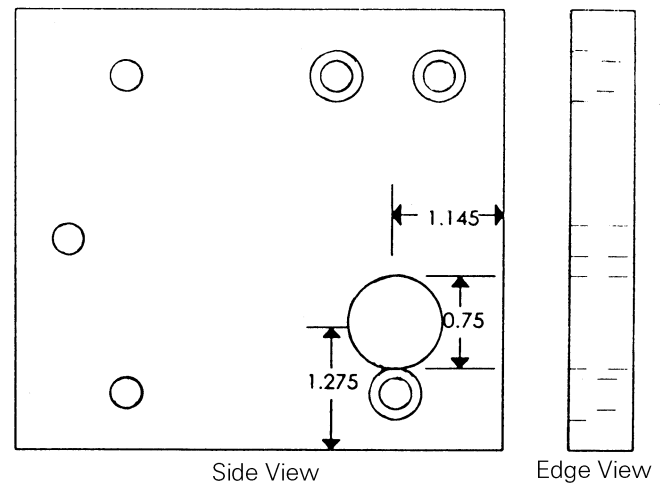

Figure 6. Location of new hole in the flux shifter base.
1. Drill a 3/4" diameter hole into the flux shifter assembly mounting base to provide the necessary clearance for the bracket. The location of the new hole is shown in Figure 6.